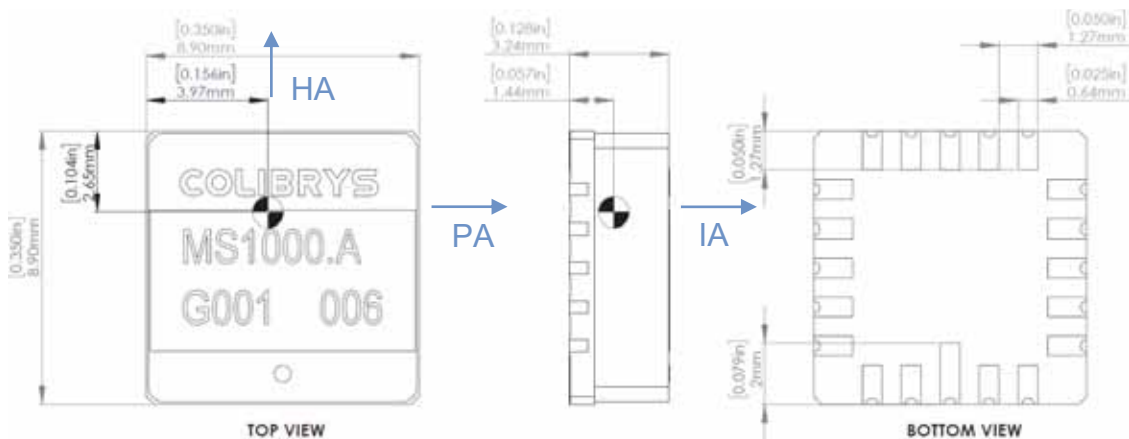

Figure 30: Package mechanical dimension. Units are mm [inch]
The outline of the LCC20 ceramic package and the Center of Gravity (CG) is illustrated in the Figure 30.